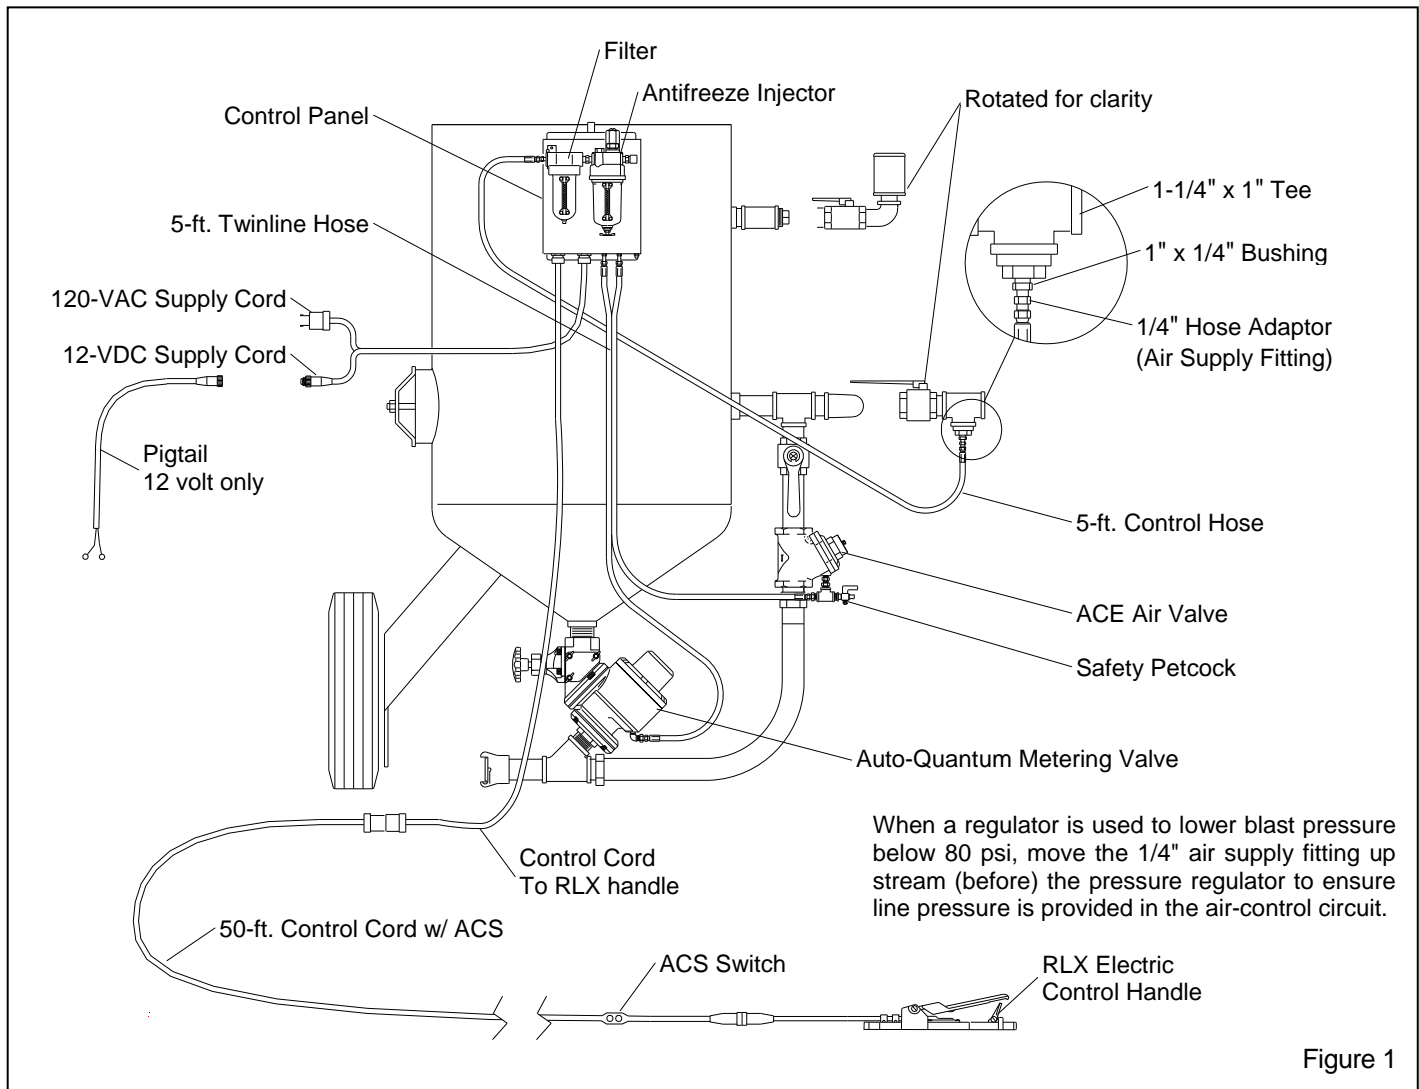

Figure 1
**1.3.1** The components of the Quantum electric remote control system are shown in Figure 1. They include the Quantum abrasive metering valve, ACE air valve, RLX electric control handle, electric panel assembly, 50-foot control cord with abrasive cut-off switch (ACS), all interconnecting control hoses, and all necessary fittings.
**1.4.3** Quantum electric remote controls (electric over pneumatic) operate pneumatically (refer to Figure 1). When the machine is manually pressurized, control air travels through the filter and antifreeze injector, and into the control panel. If the electric control handle lever (which is the main activator of the system) is in the up (no blast) position, air stops at the control panel and the media and air valves remain closed. Pressing the electric control handle lever allows air to pass through the panel to open the media and air valves, which starts the blasting process. When the control handle is released, control air exhausts at the panel, the valves close and blasting stops.
2.2.9 Connect a manually operated ball valve (inlet valve) and a second tee (Tee No. 2) to the blast machine as shown. NOTE: The second tee and all fittings necessary to complete the assembly shown in the detail circle in Figure 1 are included with the remote system.
2.2.10 Refer to the detail circle in Figure 1, and install the bushings and adaptor fitting.
**2.2.11** Assemble a manual outlet valve assembly, and install it as shown. NOTE: Clemco supplies an exhaust muffler with all blast machines 1.5 cubic feet and larger. The muffler reduces exhaust noise and directs the exhaust downward, which prevents abrasive from exhausting into the air. When the blast machine is depressurized, the muffler body will pop up and diffuse the escaping air and abrasive. When the machine is fully depressurized, the muffler body will drop, permitting trapped abrasive to empty. For the muffler to work properly, it must be installed with the body facing up, as shown in Figures 1 and 3.
Refer to Figure 1.